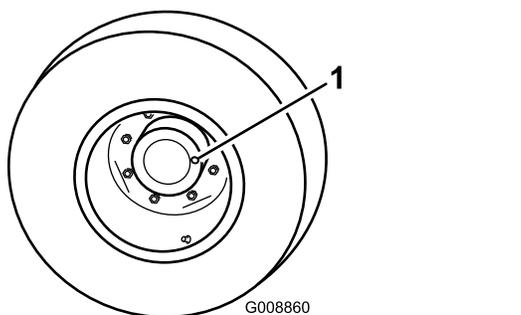

Figure 41
1. With the machine on a level surface, position the wheel so that the check/drain plug (Figure 41) is at either the 3 or 9 o'clock position.
2. Remove the plug on the planetary (Figure 41). Oil should be at the bottom of the check plug hole on the back side of the brake.